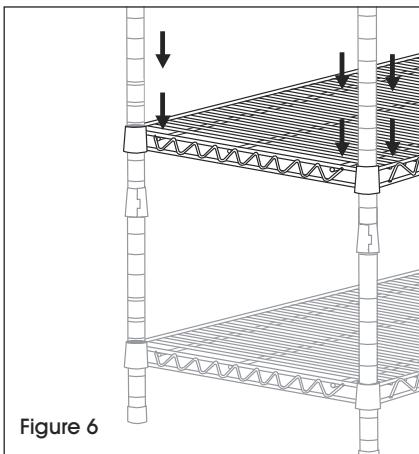

Figure 6
4. Determine the height of the next shelf, snap on shelf supports, then add and secure shelf. Repeat for remaining shelves. (See Figure 6)